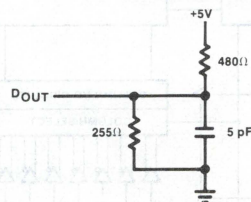

Figure 5. Output Load for t_{HZ} ,
3. Transition is measured ± 500 mV from steady state voltage with specified loading in Figure 5. This parameter is sampled and not 100% tested.
2. Transition is measured ± 500 mV from steady state voltage with specified loading in Figure 5. This parameter is sampled and not 100% tested.